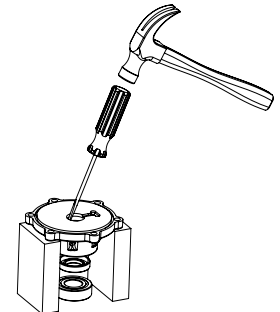

Figure 4
9. Punch seals out of cover and housing with screw driver and mallet as in Figure 4. Discard seals.